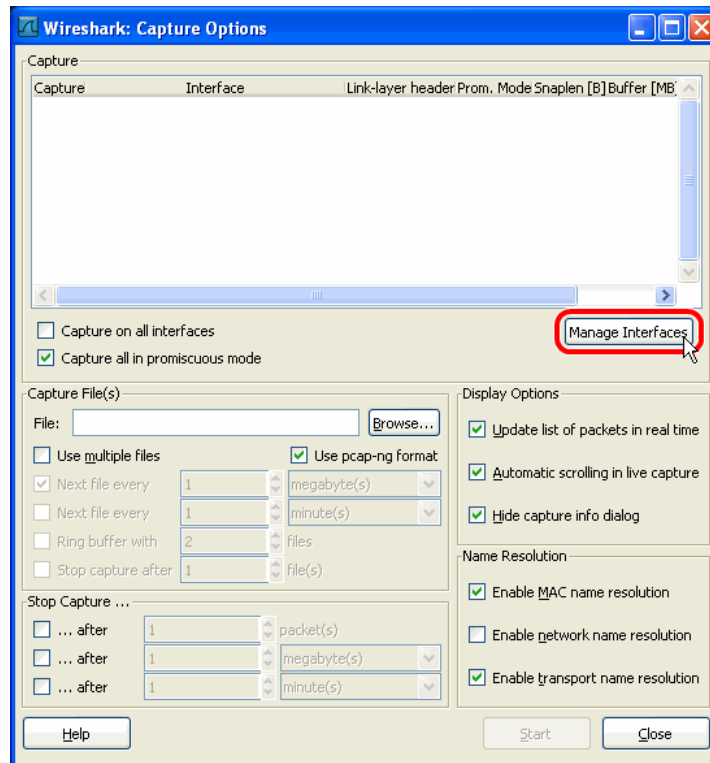

Figure 167: Wireshark Capture Options Dialog.
1. Open Wireshark and choose the menu **Capture → Options...**. This opens the **Capture Options** dialog as shown in Figure 167.